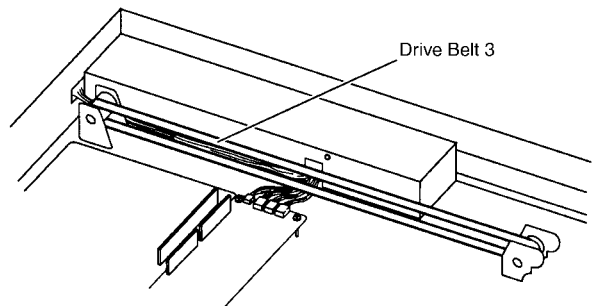

Fig. 4-27
- 2) Remove Drive Belt 3, as shown in Fig. 4-27.